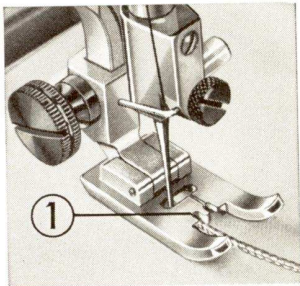

Fig. 55
To strengthen a buttonhole with a soft cord (gimp), thread the cord into the opening (1) at the left of the buttonhole foot (Fig. 55). Then proceed in exactly the same manner as for ordinary buttonholes. The cord will thus be entirely covered with stitches. When the buttonhole is finished, pull slightly both ends of the cord and cut them off close to the buttonhole.